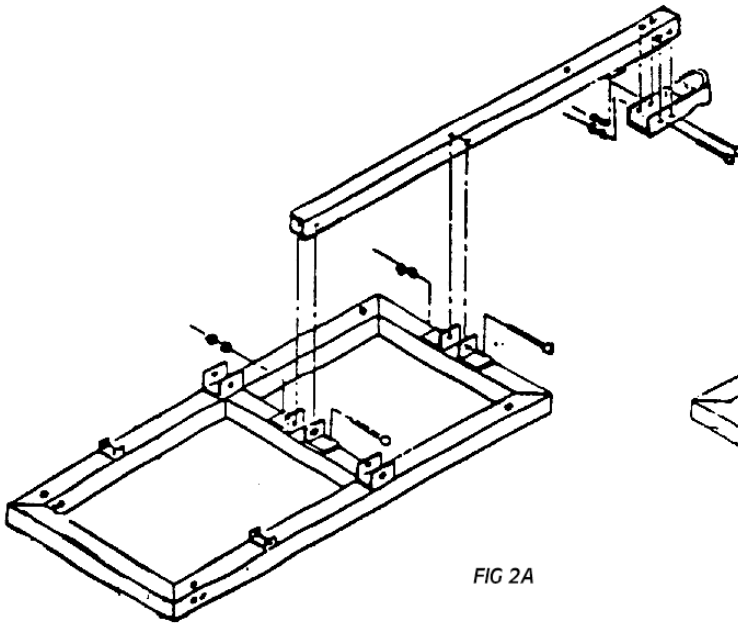

FIG 2A
3. Attach ball coupler to tongue assembly using (2) each 3/8"-16x3" bolts, lock washers and nuts provided as shown in Fig. 2A.
4. Attach tongue assembly to trailer frame using (2) each 1/2"-13x3" bolts, lock washers and nuts provided as shown in Fig. 2A.